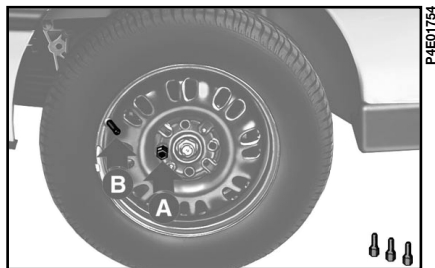

fig. 7
9) Fasten one bolt **A**-fig. 7 near the inflation valve **B**.